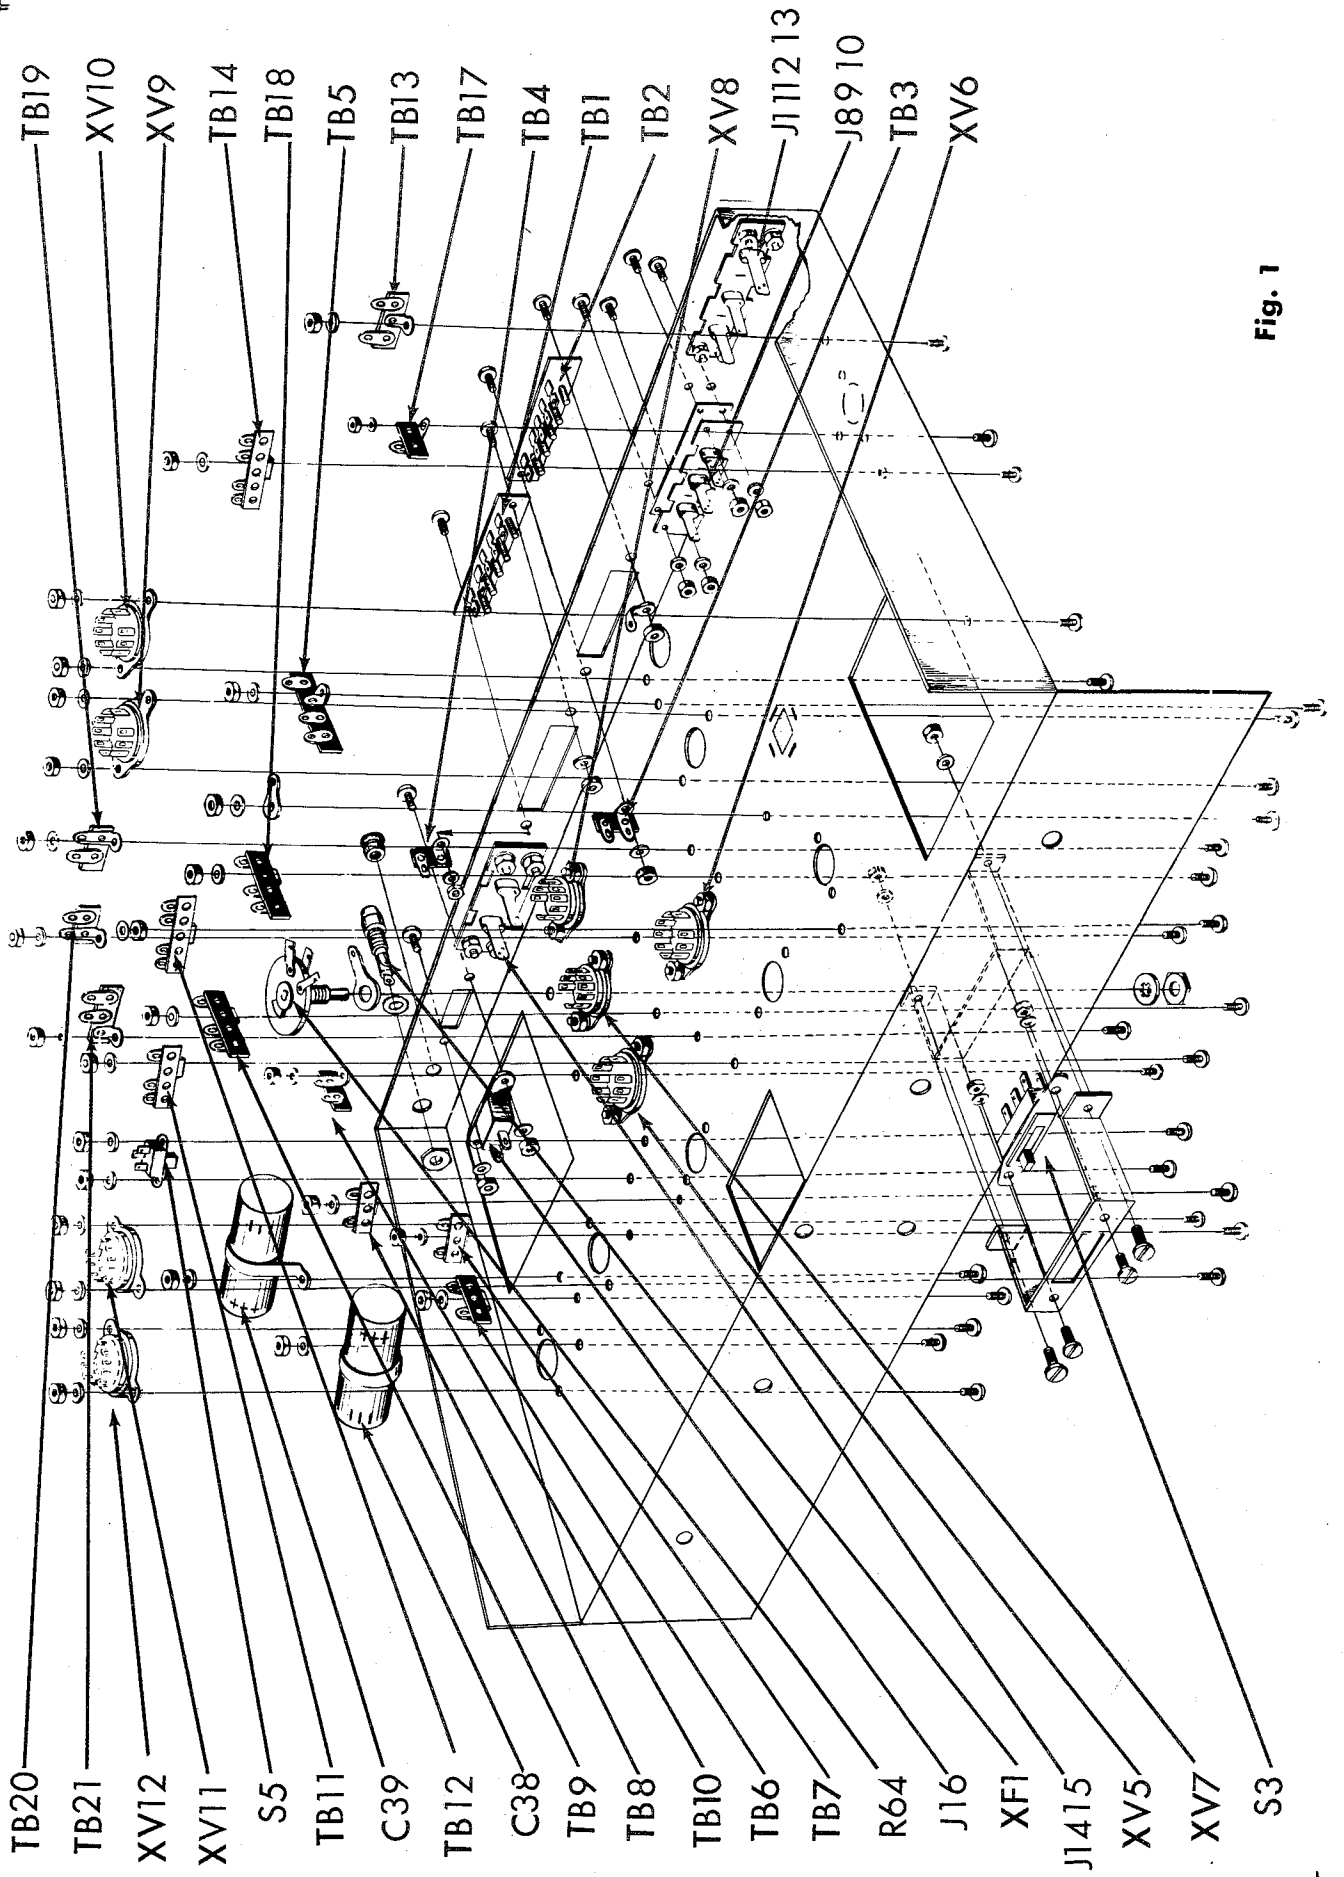

Fig. 1
Note: In addition to Fig. 1, it will be required to refer to Fig. 6 in the following mounting procedure in order to settle such matters as orientation of terminal boards, keyways on tube sockets, etc. The wiring which comes later will be greatly facilitated if, after mounting each part, the symbol number of the part is written on the bottom of the chassis next to the part with a crayon or soft pencil.
1. (✓) Fig. 1. Mount the 9 pin miniature tube socket, XV12, as shown. Use two #4-40 screws, two #4 lockwashers, and two #4-40 hex nuts. Note the mounting direction in figure 6.
2. (✓) Fig. 1. Similar to the above, mount 9 pin miniature sockets, XV11, XV5, XV6, XV7, XV8, XV9 and XV10. Use two #4-40 screws, two #4 lockwashers, and two #4-40 hex nuts on each. In each case, note the mounting direction in figure 6.
3. (✓) Fig. 1. Mount the 3 terminal input jack strip, J8, 9, 10 as shown. Use four #6-32-screws, four #6 lockwashers and four #6-32 hex nuts. Mount the 3 hole insulator between the chassis and the input jack strip. (Fig. 10).
4. (✓) Fig. 1. Mount the 3 terminal input jack strip, J11, 12, 13, as shown. Note mounting direction in figure 10 Use four #6-32 screws, four #6 lockwashers and four #6-32 hex nuts. Mount a 3 hole insulator between the chassis and the input jack strip. (Fig. 10)
5. (✓) Fig. 1. Mount the double pole 2 position slide switch, S3, into the switch bracket, as shown. Use two #4-40 screws, two #4 lockwashers and two #4-40 hex nuts.
6. (✓) Fig. 1. Mount the switch bracket with the switch (previously mounted in step 5) on the chassis, as shown. Use two #6-32 screws, two #6 lockwashers and two #6-32 hex nuts.
7. (✓) Fig. 1. Mount the 2 terminal tape output jack strip, J14, 15, as shown. Use four #6-32 screws, four #6 lockwashers and four #6-32 hex nuts.. Mount a 2 hole insulator between the chassis and the jack strip.
8. (✓) Fig. 1. Mount the 5 screw terminal board, TB1, as shown. Use two #6-32 screws, two #6 lockwashers and two #6-32 hex nuts. Under one of the lockwashers, mount one post right terminal strip, TB4.
9. (✓) Fig. 1. Mount the 5 screw terminal board, TB2, as shown. Use two #6-32 screws, two #6 lockwashers and two #6-32 hex nuts. Under the lockwasher, mount one post right with ground terminal strip, TB3. Under the remaining nut, mount a #6 ground lug.
10. (✓) Fig. 1. Mount the fuseholder, XF1, as shown. Use rubber washer against the outside of the chassis under the wider part of the holder. Slide the large nut over the fuseholder on the inside of the chassis. DO NOT tighten nut.
11. (✓) Fig. 1. Push a rubber grommet into the 3/8" hole next to the fuseholder.
12. (✓) Fig. 1. Mount the convenience outlet, J16, as shown. Use two #6-32 screws, two #6 lockwasher and two #6-32 hex nuts.
13. (✓) Fig. 1. Mount the 30 mfd, 400V electrolytic capacitor, C38, as shown. Use one #6-32 screw, one #6 lockwasher and one #6-32 hex nut. Note direction of positive side.
14. (✓) Fig. 1. Mount the 30 mfd, 400V electrolytic capacitor, C39, as shown. Use one #6-32 screw, one #6 lockwasher and one #6-32 hex nut. Note direction of positive side. (It is the reverse of C38 in step 13 above.)
15. (✓) Fig. 1. Mount hum bucking potentiometer, R64, as shown. Use one 3/8" lockwasher and one 3/8 hex nut. Between the potentiometer and the chassis, use one 3/8 pot grounding lug. When tightening potentiometer, line up the lug with terminal #2. The grounding lug will eventually be soldered to this terminal.
16. (✓) Fig. 1. Mount the following terminal strips as shown. Use one #6-32 screw, one #6 lockwasher and one #6-32 hex nut on each. The terminal strips to be mounted in this manner are: three post, two left, TB5; two post, TB6; two post, TB7; two post, TB8; three post, two right, TB9; one post-left with ground, TB10; three post, two right, TB11; four post, TB12; two post, TB13; four post, TB14; one post left, TB17; three post, two right, TB18; one post left with ground, TB19; one post right with ground, TB20, and two post right, TB21.
17. (✓) Fig. 1. Mount the single pole 2 position slide switch, S5, as shown. Use two #4-40 screws, two #4 lockwashers and two #4-40 hex nuts.
18. (✓) Fig. 1. Mount the #6 ground lug "G" with one #6-32 screw, one #6 lockwasher and one #6-32 hex nut. Note position of lug on figure 6.